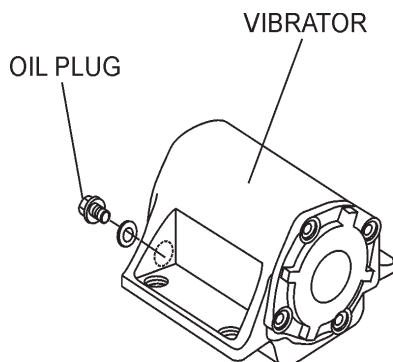

Figure 21. Oil Level Check Plug
2. Remove oil drain plug (Figure 21) from vibrator and drain oil from the vibrating case.